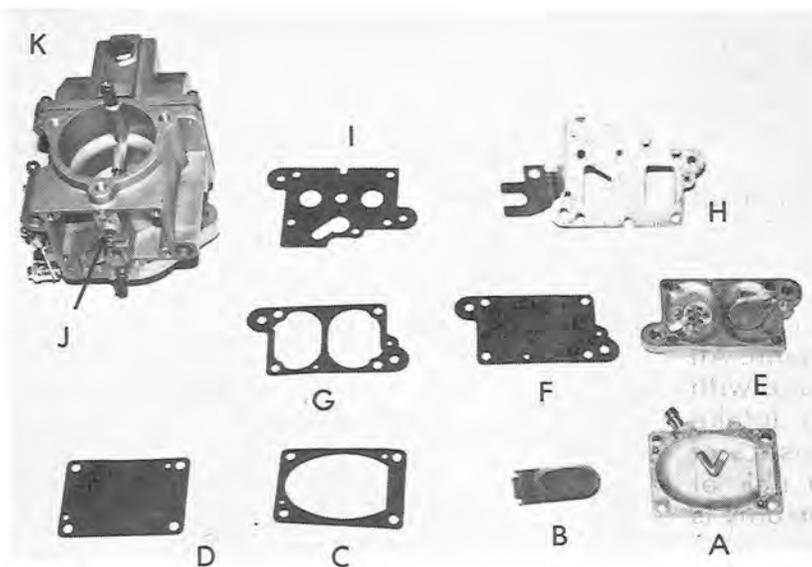

FIG. 2-6
2. Lay out parts in sequence shown in FIG. 2-6. Do not remove rubber fuel pump valves unless replacements are available.
2. **HIGH SPEED FUEL** - The fuel supply is limited by a fixed high speed jet. (See FIG. 2-6) The jets are available in various sizes and the optimum size used will depend upon temperature, altitude, etc. A smaller jet permits less fuel flow.